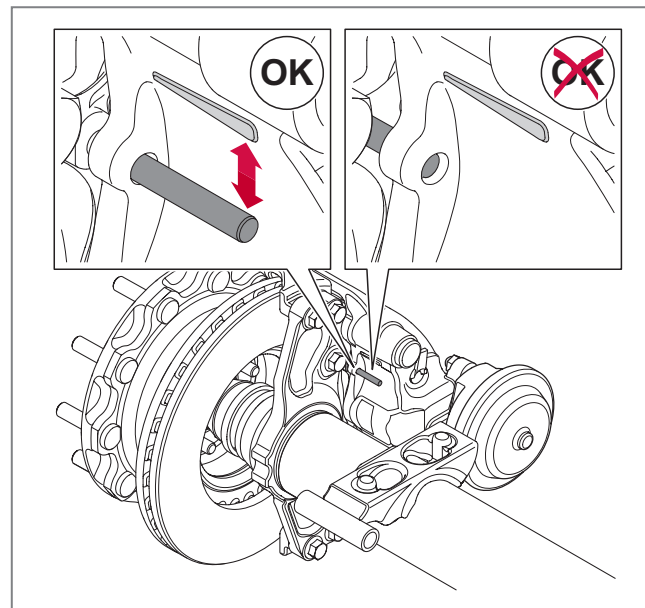

Fig. 15 - Inspection of the visual wear indicator
1. Inspect the position of the visual wear indicator (VWI), see ► Fig. 15. This check can be completed with either the wheel fitted or removed. The VWI provides an indication of the pad wear condition, but it does not provide an accurate measurement of pad wear on both pads. To obtain an accurate wear measurement of both pads, continue with the following instructions.